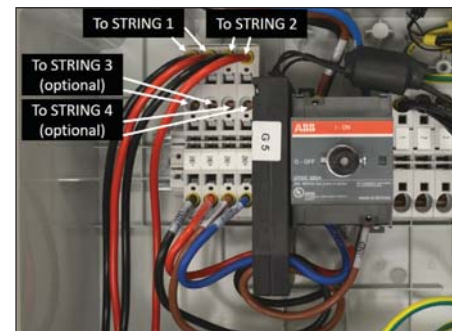

Figure 13
- Connect array to String 1 and String 2 input positions shown in Figure 13, running separate wires for POS and NEG for each array.